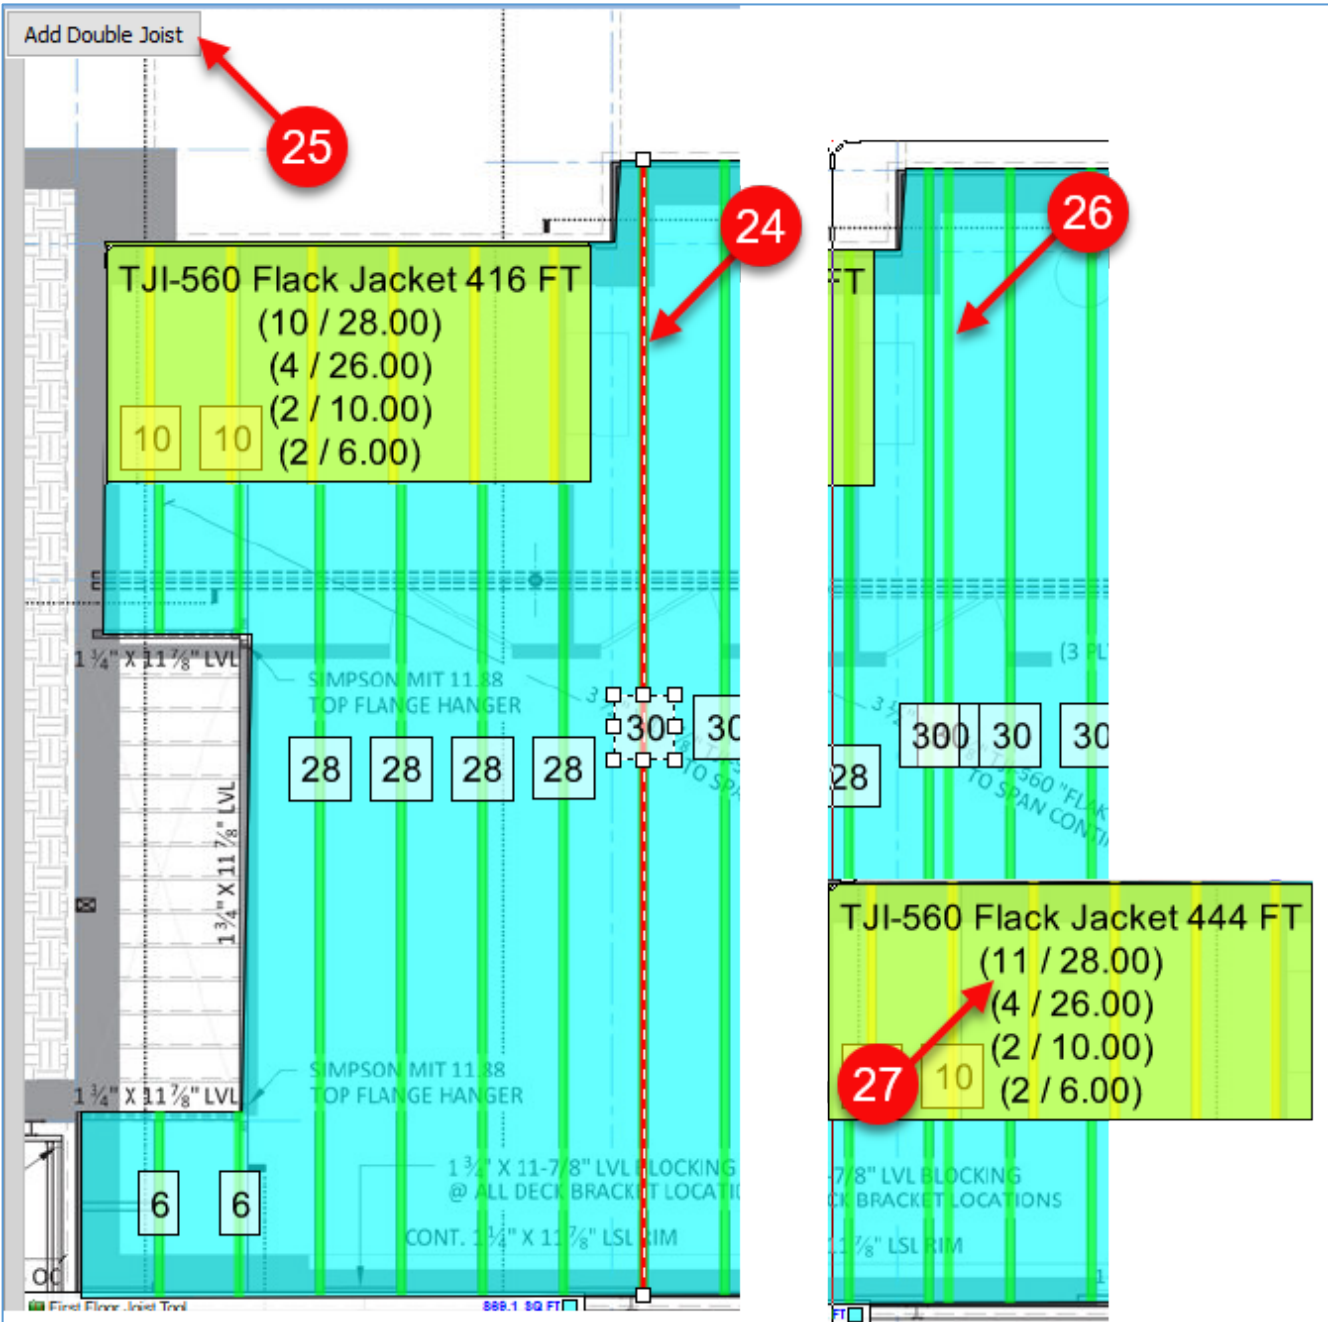

Figure 36-E
28. If you want to split the joists and rafters, click on the “First Floor Joist Takeoff” area (Fig. 36-F).